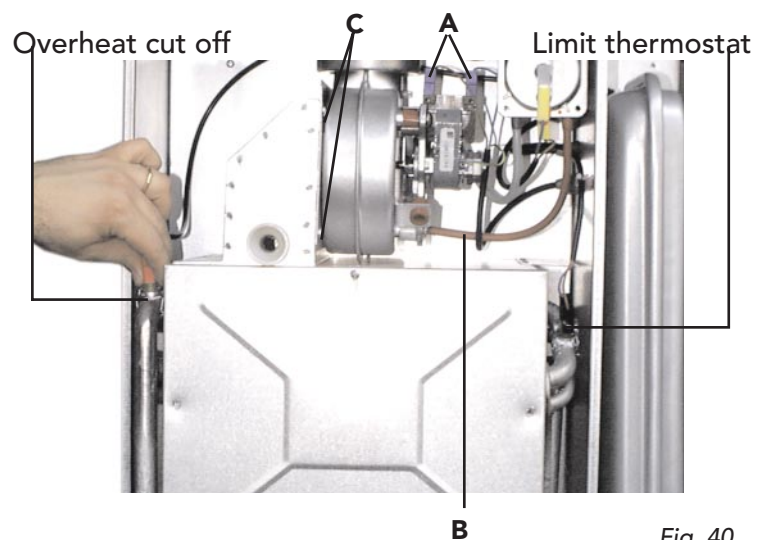

Fig. 40
## 7.10 Removal of fan (fig. 40)
## 7.11 Limit thermostat, or overheat cut off thermostat (fig. 40)
- Identify the location of thermostat from fig. 40